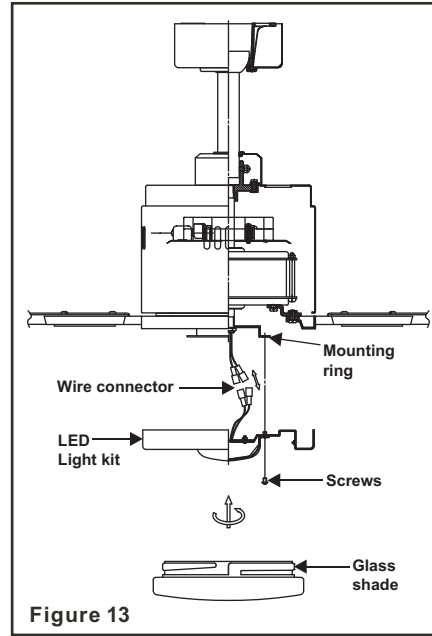

Figure 13
**Step 1.** Remove the 1 of 3 screws from the posts of the mounting ring and keep it for future use. Loosen the other 2 screws. (Do not remove) (Fig. 13)
**Step 3.** Place the key holes in the LED light kit over the two screws previously loosened from the mounting ring. Turn the LED light kit until the LED light kit locks in place at the narrow section of the key holes. (Fig. 13)
**Step 4.** Securely tighten the two light kit mounting screws previously loosened and the one previously removed. (Fig. 13)
**Step 5.** Raise glass shade up against the LED light kit, and secure it to fan by turning glass clockwise until snug. DO NOT OVERTIGHTEN. (Fig. 13)